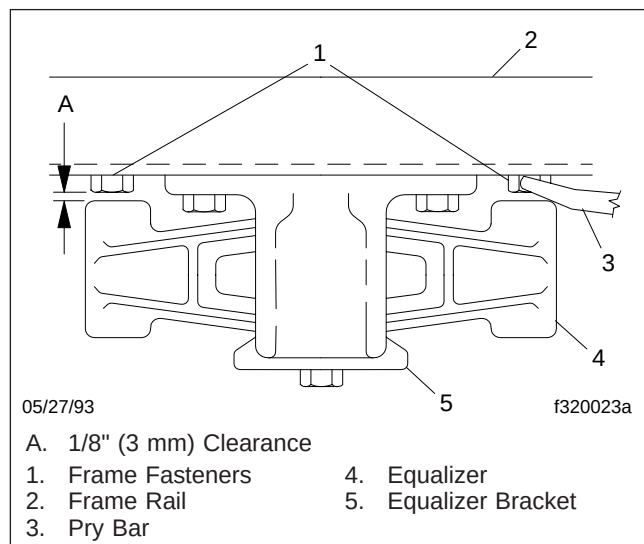

Fig. 4, Top View of the Equalizer
7. With the vehicle unloaded, attempt to move the equalizer side to side, using a pry bar between the equalizer and frame rail. Apply hand pressure only. See **Fig. 4**. If clearance between the equalizer assembly and any frame component or fas-